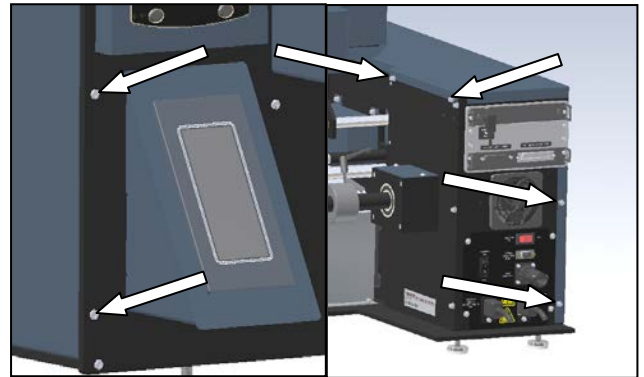

Figure 3-144. Frame Cover Screws
1. Check the photo sensing eye to ensure the sensing beam is illuminated. The sensing beam is the red light visible from the front of the machine. If the red sensor beam is not on, either the sensor is faulty or there is no power to the electric eye. Remove the frame guard (see Figure 3-144) and follow the wires from the sensor to the terminal block/breakout module and ensure the wires are making a positive connection with the terminals. If the connections are good, the sensor is faulty and needs replacement.
3. Remove the frame guard by removing the six screws shown in (figure 3-144). Locate the PLC. Watch the indicator light on the PLC labeled “X2” and watch to see if it turns on when the sensor is activated. If it does not, the sensor wires are faulty and the sensor needs replacement.